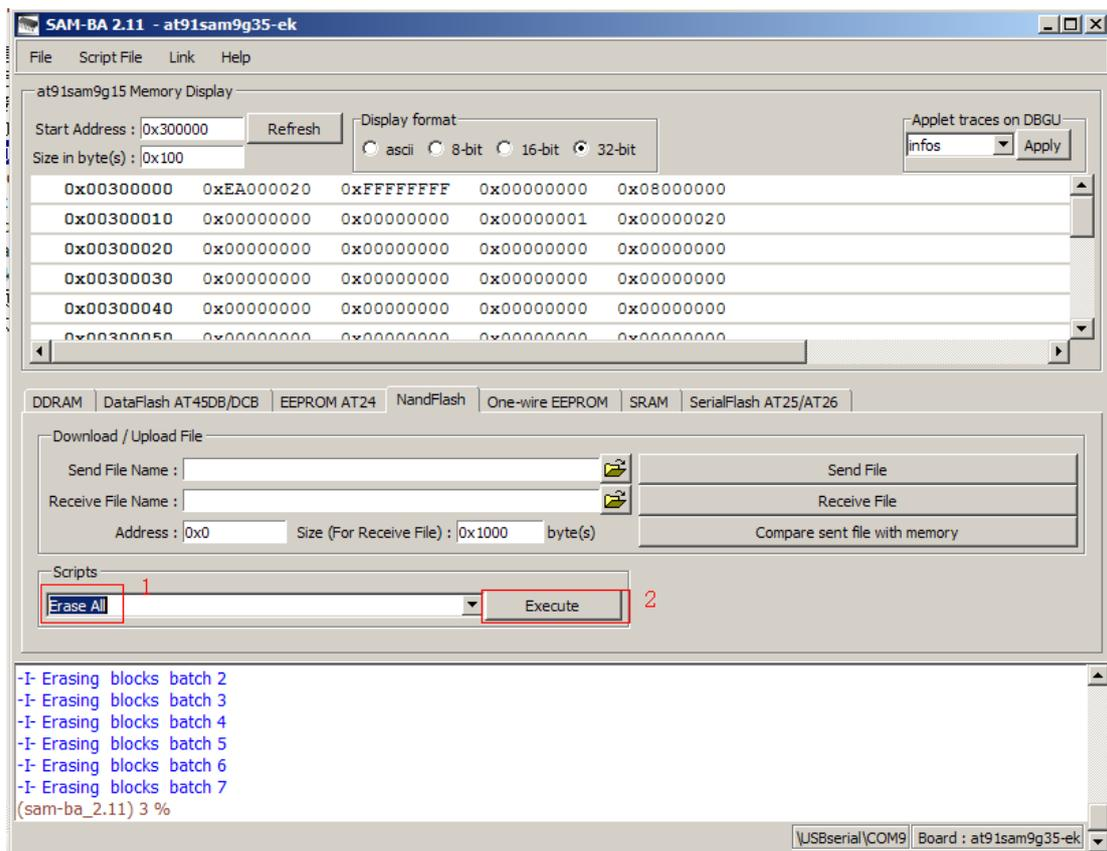

Figure 5-10
(4) Select Erase All in Scripts tab and then click Execute. Refer to figure 5-10: